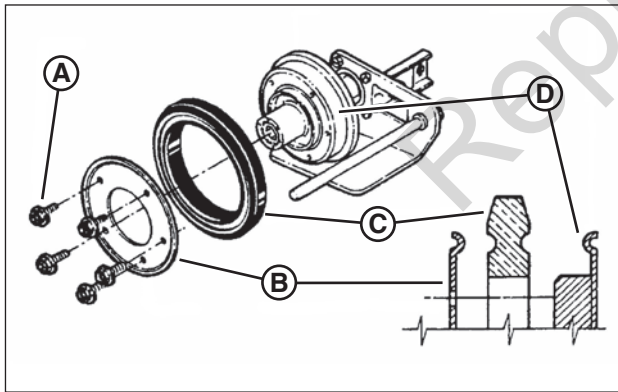

Figure 31: Replacing the driven disc rubber ring
3. Remove the five machine screws (A, Figure 31) and plate (B) which secure the rubber ring (C) to the driven disc hub (D).